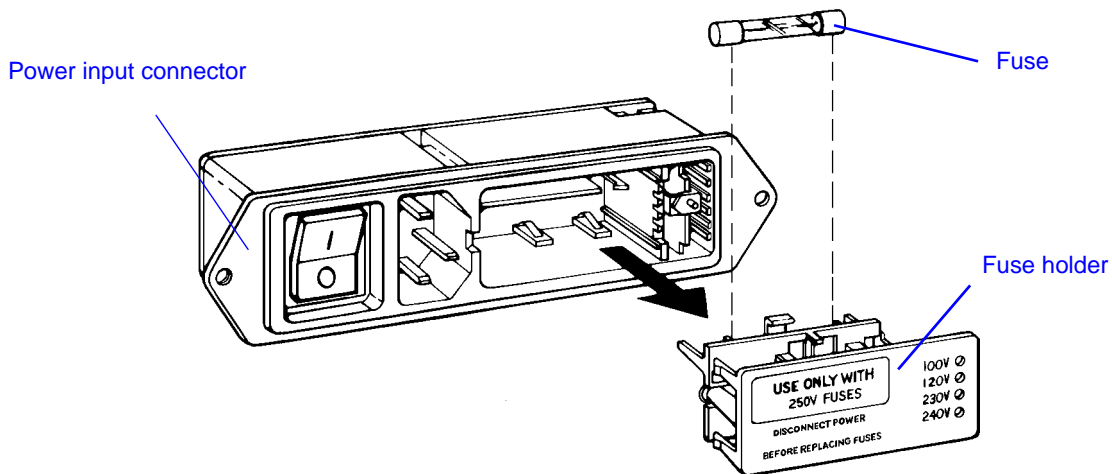

Figure 5-4. Removing the Fuse from the Fuse Holder
1. Turn the power switch to the Off (O) position and disconnect the power cable from the main power source. Ensure that the **POWER** indicator light does not illuminate.
4. Remove the fuse as shown in Figure 5-4 on page 5-12.